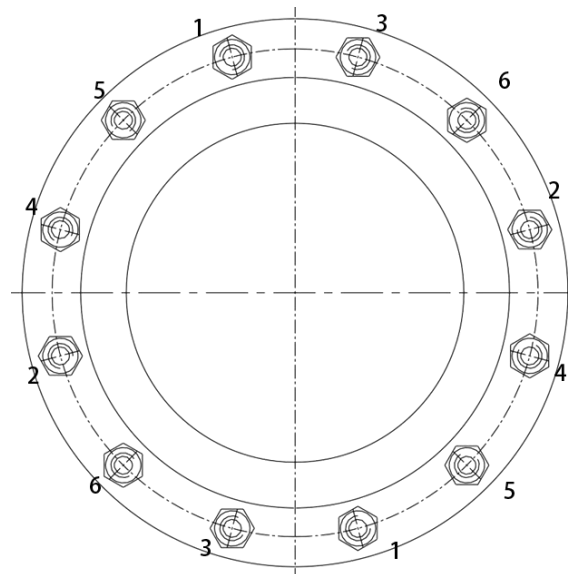

FIG. 1 Schematic diagram of bolt tightening sequence
- (1) Check the flange mating surface: If the defect that may cause leakage is found, it should be installed after repair;
- (2) Check whether the size, length and material of studs and nuts are suitable for the requirements;
- (3) Whether the material and size of the gasket meet the requirements of relevant standards;
- (4) Check whether the gasket is defective or damaged;
- (5) Apply the appropriate lubricant to the bolt threads. The bolts should be tightened symmetrically and evenly during assembly (see diagram of bolt tightening sequence in Figure 1), so that the initial contact between the flange and the gasket is as smooth and parallel as possible. Use a torque wrench to ensure that the flange bolts are correctly connected and evenly tightened.